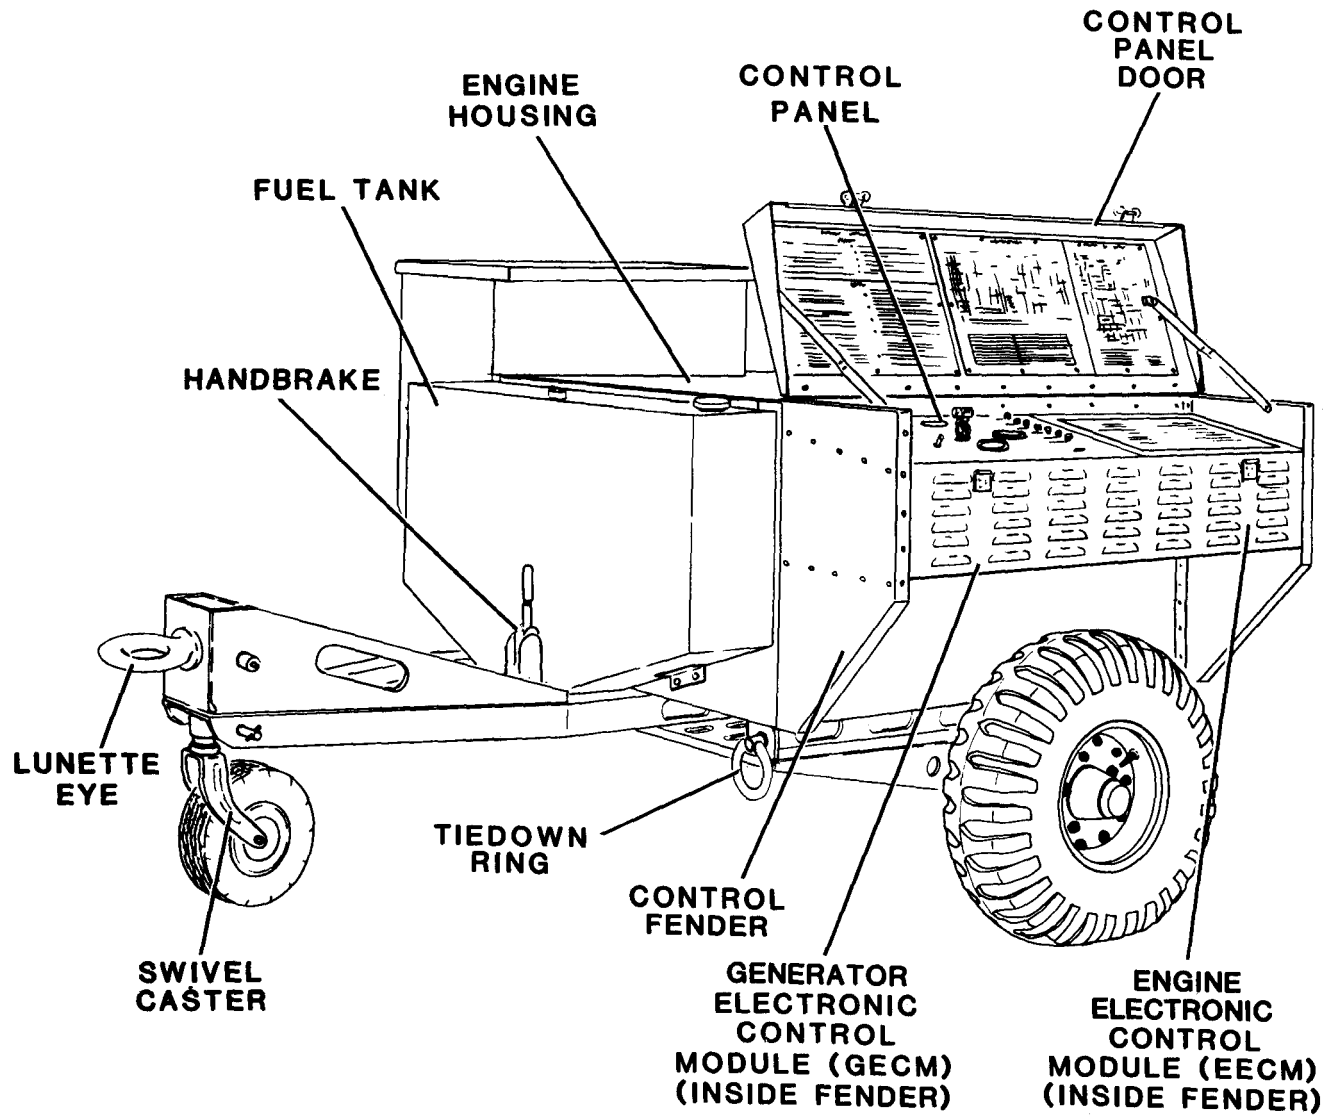

Figure 1-1. Aviation Generator Set, Front 3/4 View
**1-10. DESCRIPTION.** The MEP 362A Aviation Generator Set (figures 1-1 and 1-2) consists of a generator and gas turbine engine assembly enclosed in an all-weather frame and housing. The frame and housing are mounted on a running gear assembly to facilitate towing and positioning of the generator set. A fuel system consisting of a series of pumps and filters, fuel lines, and a fuel tank pro-